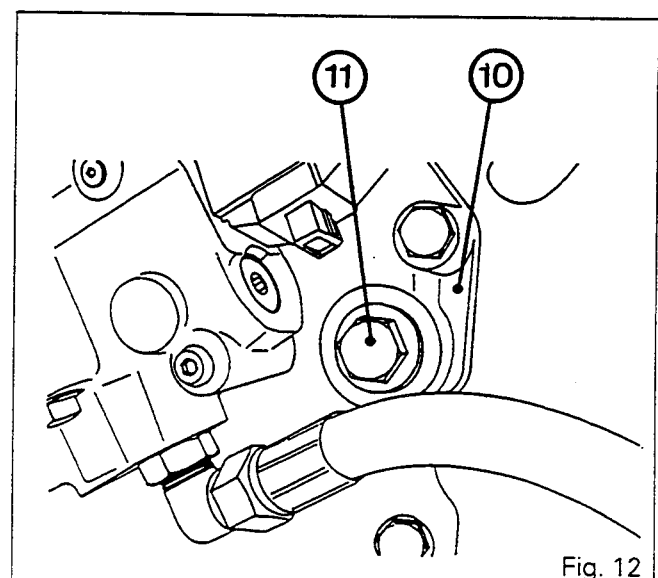

Fig. 12
**Note: Access to the adjusting nut (4) is via the aperture of the plug (11) on the left cover (10) (Fig. 12).**